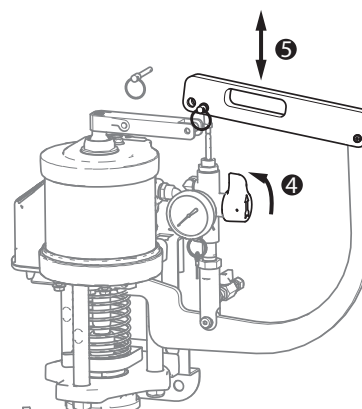

FIG. 33
5. Turn the catalyst pump pressure relief/recirculation valve to the dispense position as shown in **Figure 33**.